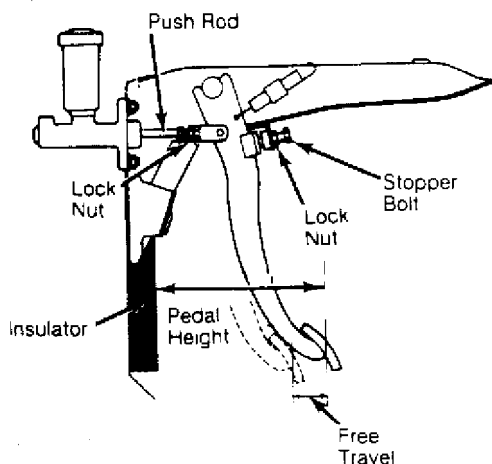

Fig. 5: Clutch Adjustment Locations (Except GLC Wagon)
1) On RX7 and Pickup, measure distance from center of upper surface of pedal pad-to-dash insulator. To adjust height, loosen lock nut. Turn stopper bolt. Tighten lock nut after adjustment is made. See Fig. 5.
1) On RX7 and Pickups, adjust clutch pedal free play, measured at pedal pad, to .02-.12" (0.6-3.0 mm). Loosen lock nut and turn pedal stopper bolt to specification. Tighten lock nut. See Fig. 5.